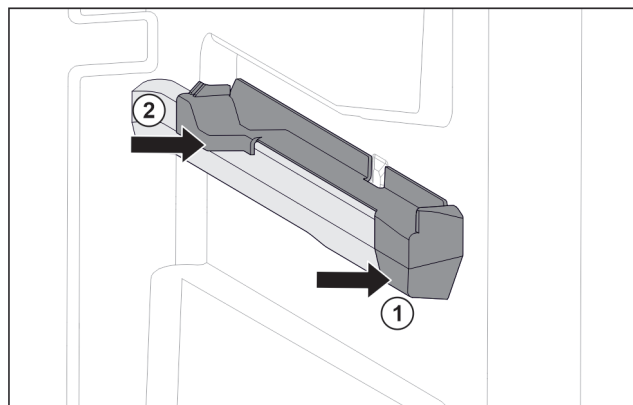

Fig. 153 Attachment on the right moulded rib
- Position attachment on moulded rib at the front. Fig. 153 (1)
- Press on attachment at the back. Fig. 153 (2)